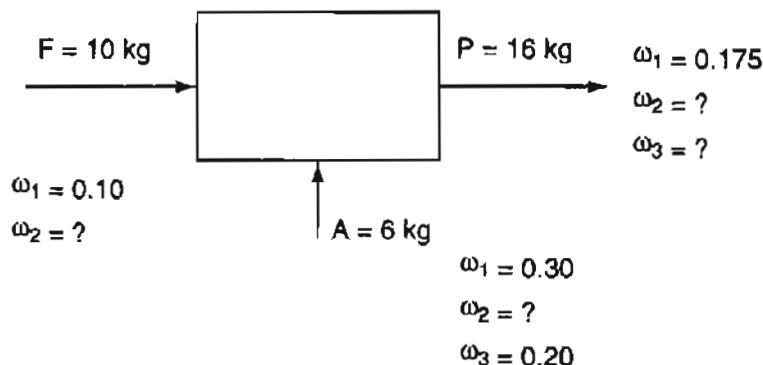

Figure P7.7
- **7.7 In the steady state process (with no reactions occurring) in Figure P7.7 you are asked to determine if a unique solution exists for the values of the variables. Does it? Show all calculations.